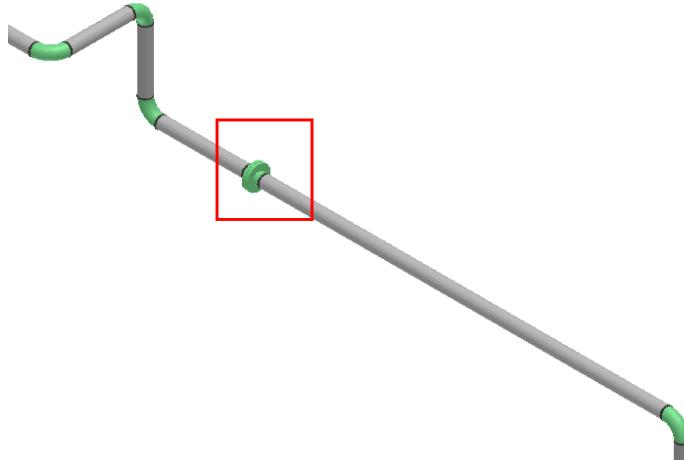

Figure 8: Placed Takedown Joint in a Pipe Run
37. Click on the graphic view to accept the position of a split on the pipe run. The highlighted portion in Figure 8 shows takedown joint (flange set) placed in a pipe run.